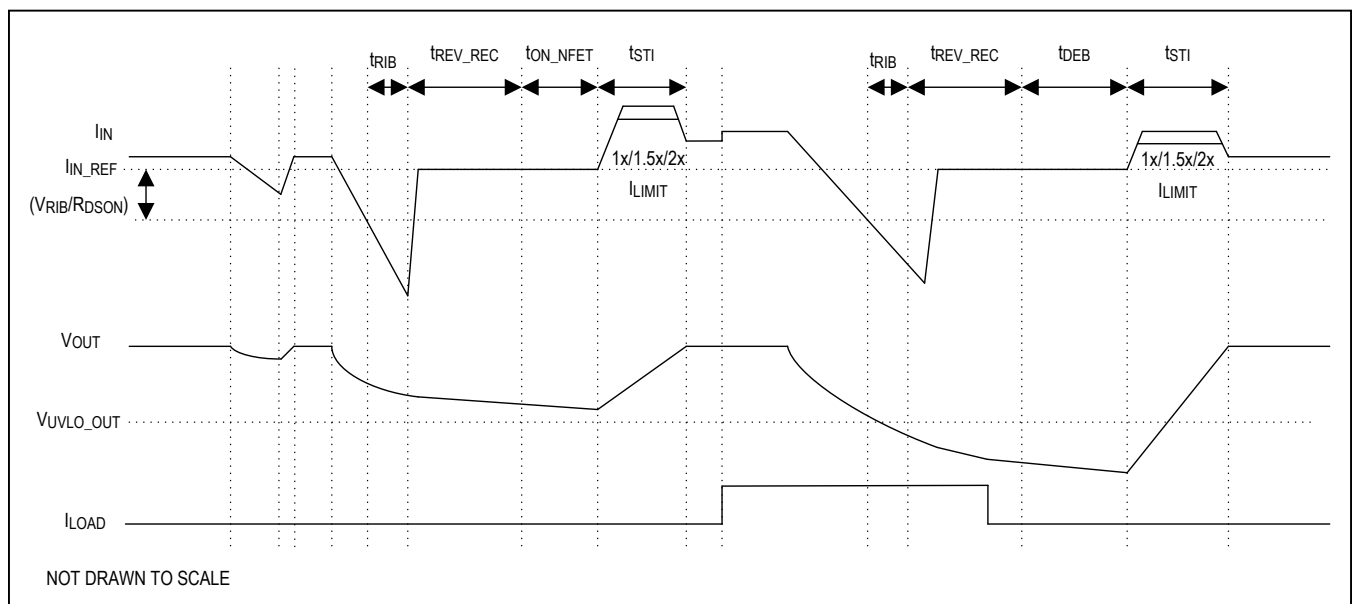

Figure 6. Reverse-Current Timing Diagram
**Reverse-Current Blocking (Figure 6)**